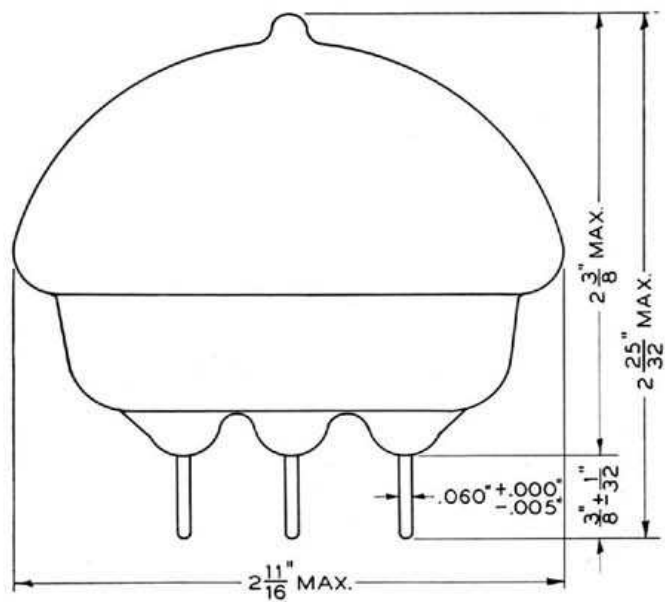

FIG. 1
**Dimensions**—Dimensions and outline diagrams are shown in Figures 1 and 2. The overall dimensions are: